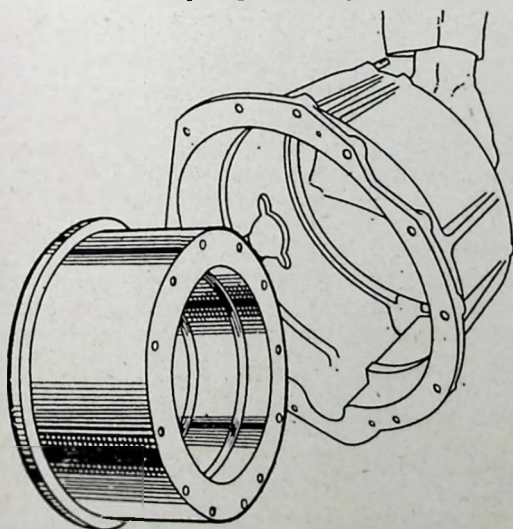

FIG. 31.—Removing stator.
- Remove the stator (Fig. 31).